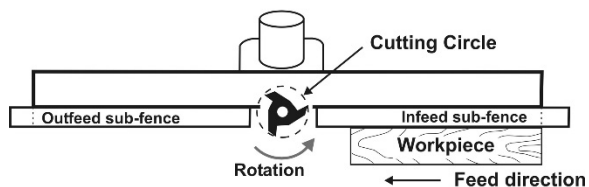

Figure 8-3
7. Do not perform "climb cuts" (feeding the work with the bit rotation). Always feed work *against* the bit rotation. See Figure 8-3.
8. For average work, where a portion of the original edge of the work is not to be touched by the cutter, both sub-fences are set in a straight line as shown in Figure 8-3.